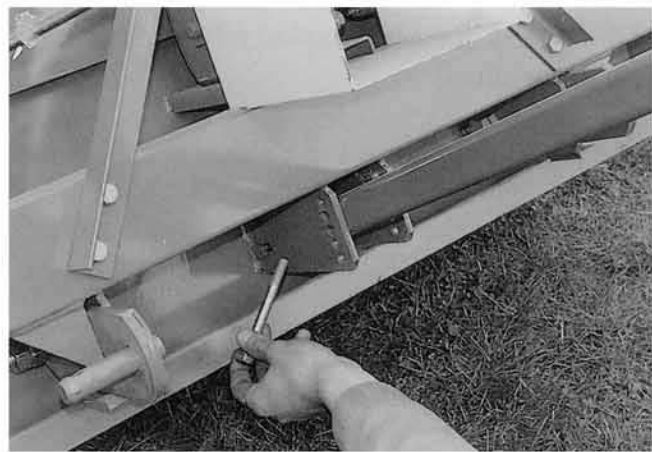

fig. 27
- Remove front fastening bolt (SW 17) (Fig. 27),